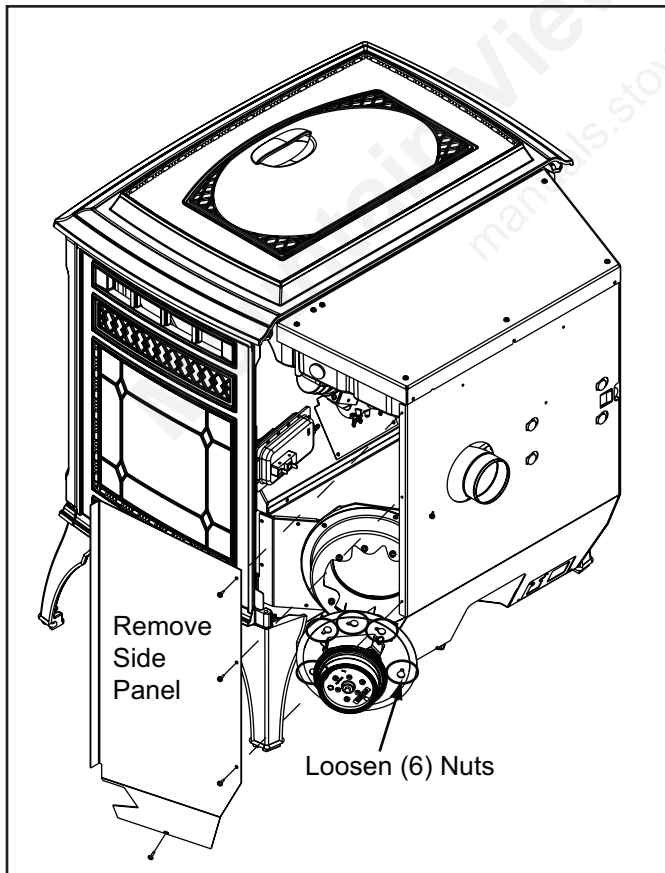

Figure 41.1
2. Remove the right side panel by removing the 4 screws using a Phillips head screw driver. **Figure 41.1.**